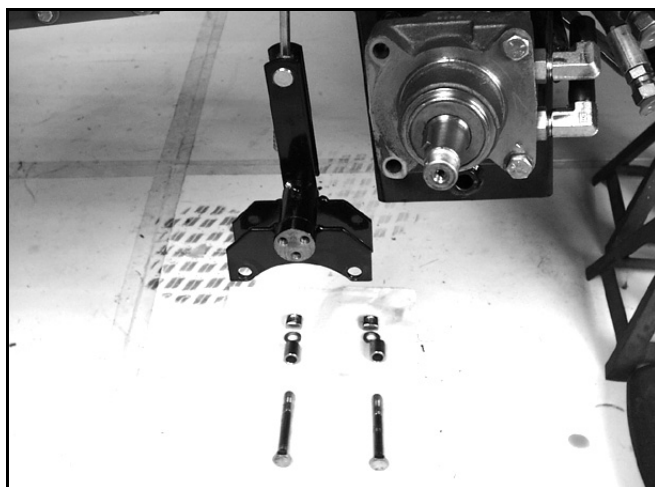

Figure 81
8. To remove the brake brackets, remove the 2 bolts at the front of the wheel motor and remove the bracket (Figure 81).